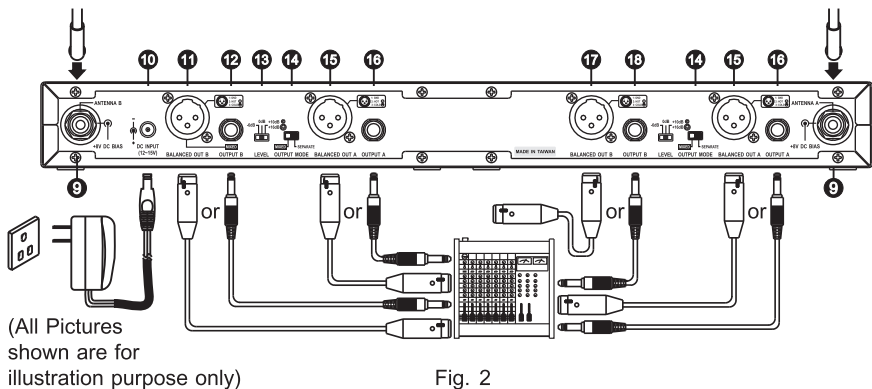

Fig. 2
1. Antenna Connection: Connect an antenna to each of the antenna connectors ❾ on the rear panel. Fig. 2. Antenna connectors provide an 8-volt DC bias to work with MIPRO antenna boosters. If the antenna cable is longer than 10 meters, it is advisable to install an antenna booster to ensure optimal reception.
2. Power Connection: Connect the power supply to the receiver DC input ❿ and plug it into an AC power source. Fig. 2.
- (A) When connecting the audio output to the MIC IN jack of the mixer or amplifier, switch output level switch ⓭ to 0 dB. When connecting to LINE IN jack, set output level switch to +16 dB when using balanced XLR connector or set output level switch to +10 dB when using unbalanced (6.3 Ø) connector. When connecting to an amplifier with non-standard gain, set output level switch to -6 dB when there is distortion at the maximum output level.
- (B) Output for electric guitar/bass: Use a 6.3 Ø phone cable. One end to receiver's unbalanced output jack and the other end to guitar/bass amplifier's input jack. Switch the output level to the "+10 dB" position.
- (C) Use an XLR cable to connect the receiver audio output jacks ⑪⑮⑰ to a mixer or an amplifier's MIC IN jack.
- (D) Use a PHONE cable to connect the unbalanced phone jacks ⑫⑯⑱ to a mixer or an amplifier's LINE IN jack.
- (E) To mix the multiple channel outputs, connect to the mixed output jacks ⑪ or ⑫ and switch the output switch ⑭ to the MIX position.